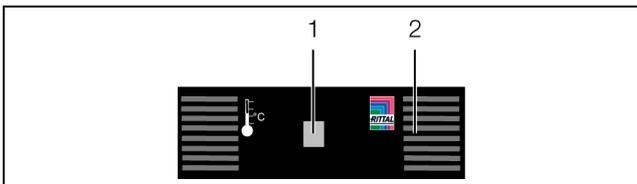

Fig. 10: Front of the temperature sensor
- If necessary, connect the external temperature sensor to the temperature sensor connector on the front (fig. 10, item 1).